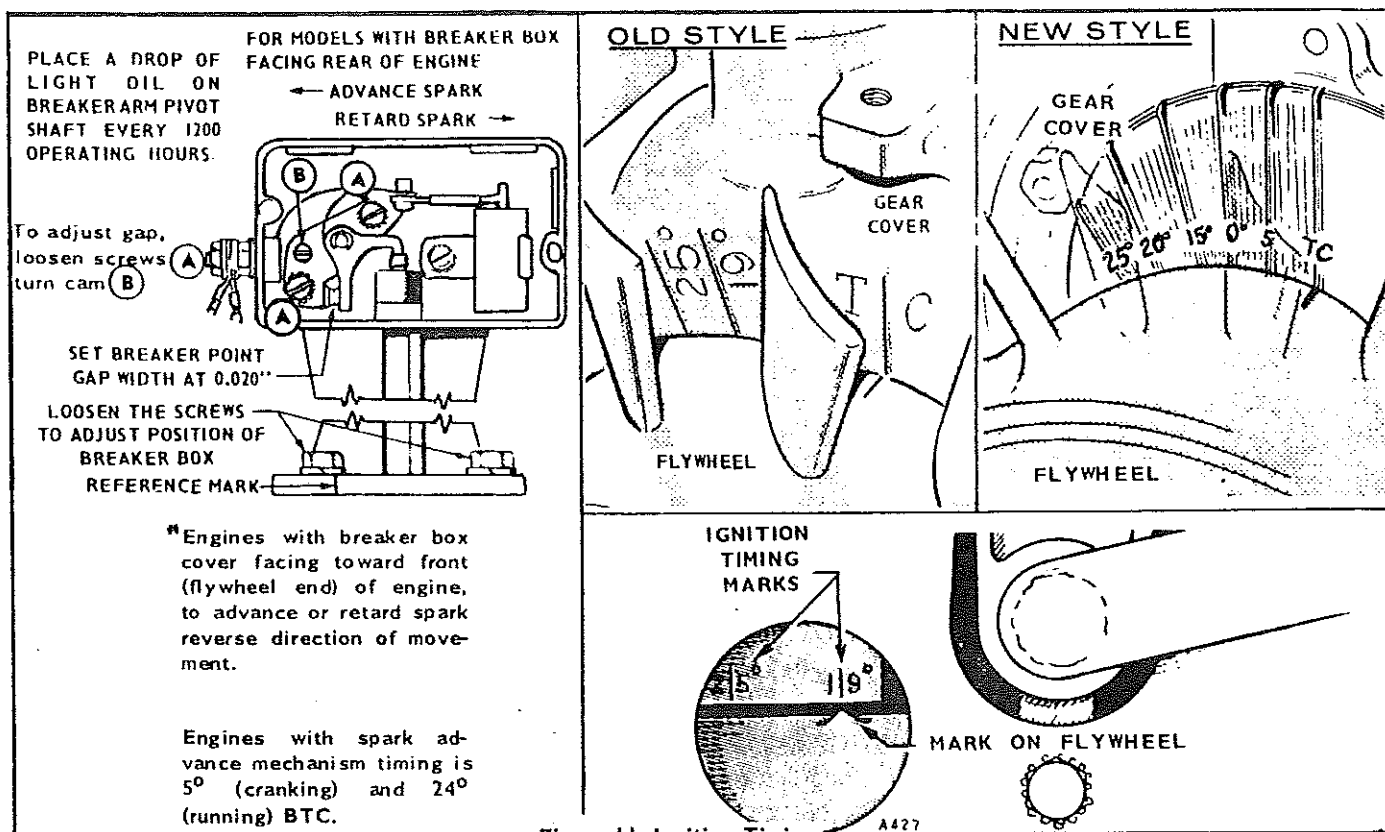

Figure 11. Ignition Timing
2. Crank the engine over slowly by hand in the direction of crankshaft rotation until the witness mark on the flywheel and the TC mark on the gear cover are exactly in line (Fig. 11).
5. Turn the flywheel slowly to the right and note whether the ignition points just separate when the mark on the flywheel aligns with the correct degree mark (19° or 25°) on the gear cover. If the marks align as the points break, timing is correct. If they do not, loosen the breaker box mounting screws and shift the whole breaker box assembly slightly toward the #1 cylinder to retard the timing (points breaking too soon), or shift it slightly away from the #1 cylinder to advance the timing (points not breaking soon enough). Tighten the breaker box mounting screws securely after making an adjustment (Fig. 11).